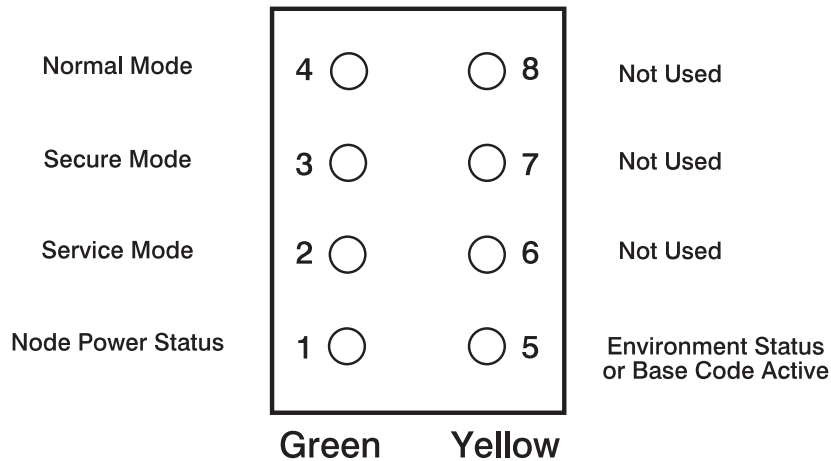

Figure 2-1. 604 and 604e High Node LEDs
2. Locate LED 5. See Figure 2-1 on page 2-19.